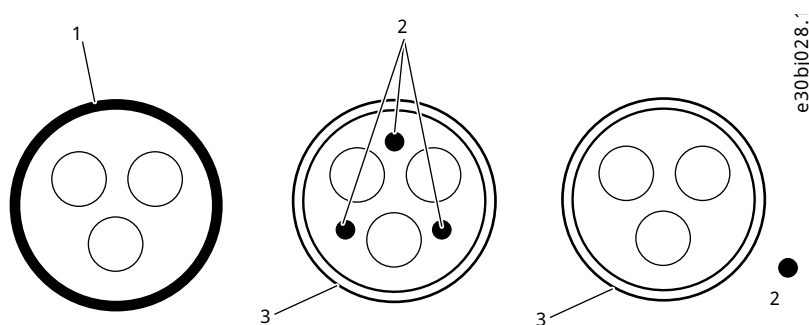
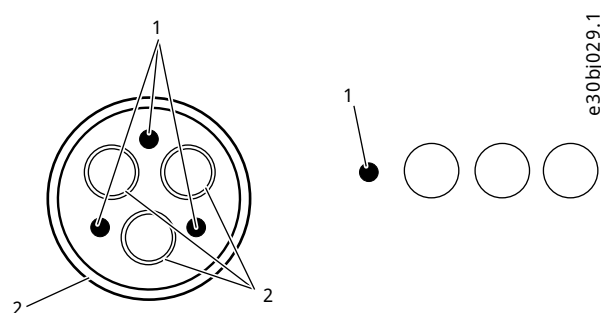

Figure 15: Recommended Cable Types for Mains and Motor Cabling
Figure 16: Not Recommended Motor Cable Types
**Only use symmetrical and shielded 3-phase motor cables.** See Figure 15. Do not use symmetrical and shielded 3-phase cable with individual shield for each phase conductor or single-core phase conductors and PE with or without shield, see Figure 16.